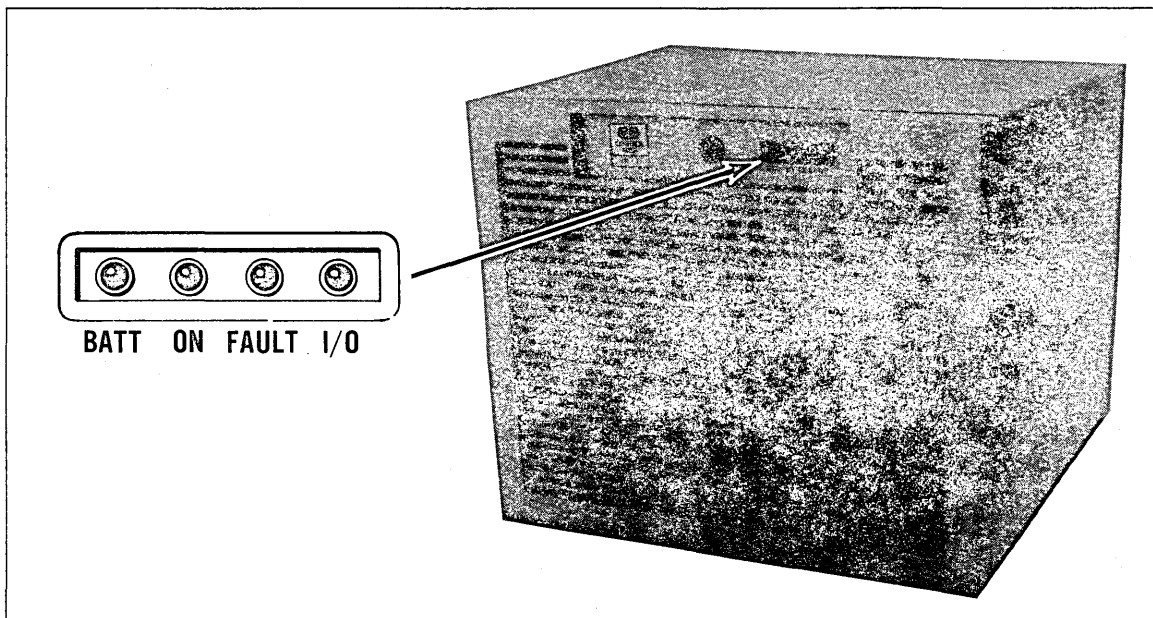

Figure 1-7. DI Cabinet Indicator Lights
8. Turn on DI power. The power switch/circuit breaker is labeled PWR DISCONNECT and is on the back of the cabinet, next to the ac power cord. Power is on when the switch is up (1) and off when the switch is down (0).
9. Refer to figure 1-7 and check the indicators on the front of the DI. The correct indications are as follows: